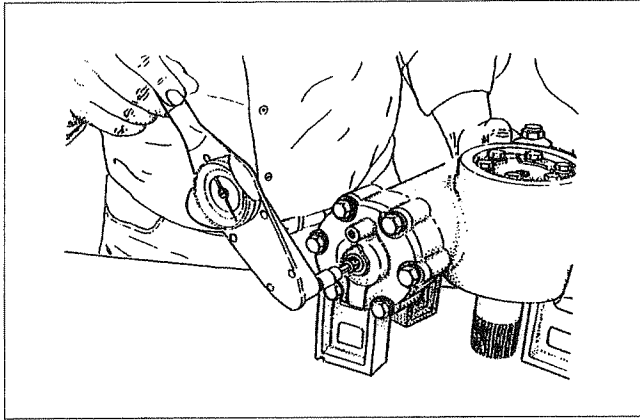

Figure 43
4. Tighten the adj. screw to 3.4Nm (Figure 43).